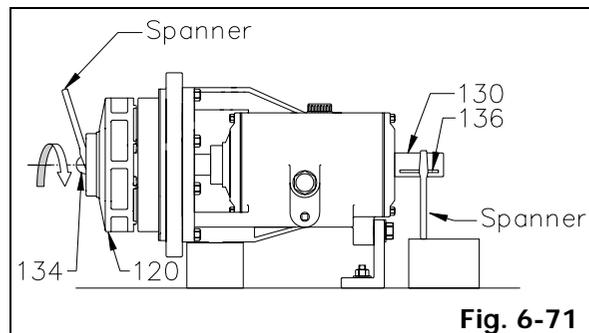

Fig. 6-71
2. Install impeller (120) to shaft (130).
3. Install impeller nut (134) to shaft (130) by turning impeller nut (134) clockwise (viewed from the impeller end of the shaft) by hand until it is tightened.
4. Slide spanner over the shaft (130) and shaft end key (136). Hold the spanner on the workbench or a solid block and make sure the power end is secure on the work surface.
5. Place another spanner over impeller nut (134). Turn spanner clockwise (viewed from the impeller end of the shaft) to tighten impeller nut (134) properly (Fig. 6-71).